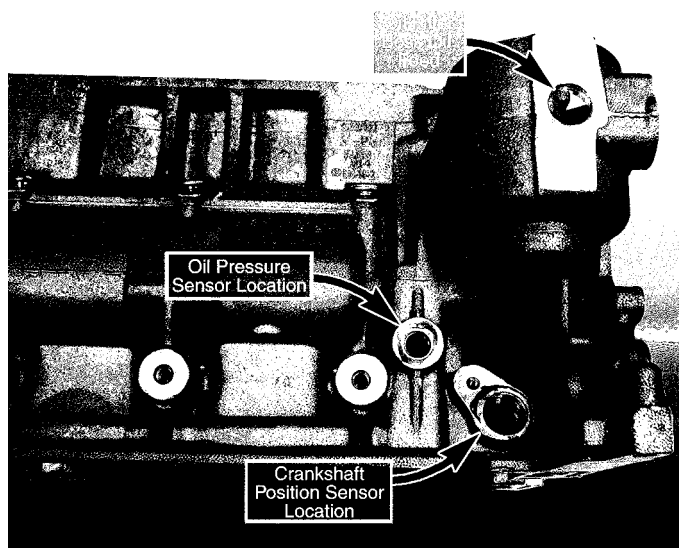

Figure 8
- The factory oil pressure sensor location hole is tapped to $\frac{1}{4}$ pipe thread (Fig. 8).
- The factory crankshaft position location hole is tapped to -08 AN thread and plugged (Fig. 8).
- The oil filter housing boss is drilled and tapped to $\frac{1}{2}$ pipe thread for an oil feed (Fig. 8).